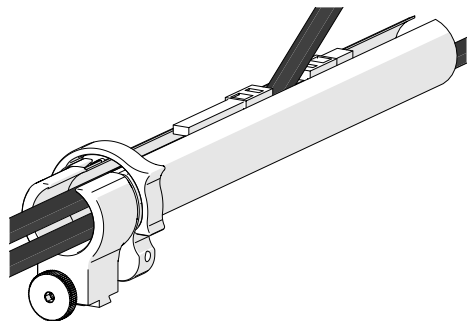

Fig. 181 - Flexibility
4. When necessary, the two zippers may be opened to allow any cables to exit the tube anywhere between the ends (*Fig. 181*).